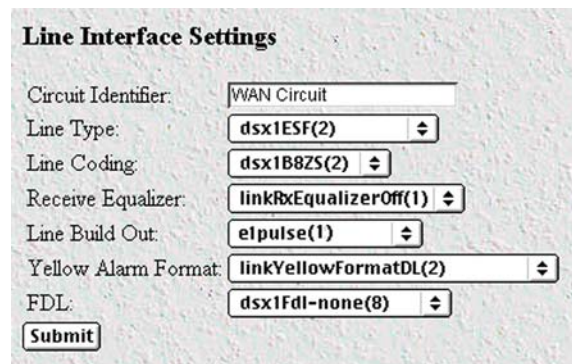

Figure 29. WAN Circuit Configuration window, Line Interface Settings section
2. Link: 1 corresponds to Line 1 on the RAS. This is the primary link for dial-in callers. Under Link 1, Click on Configuration then Modify. The Line Interface Settings section of the WAN Circuit Configuration window appears (see figure 29).
1. Click on the Line Type pop-up menu (see figure 29 on page 39) and choose from the following options:
- For an E1/PRI line your options will be either dsx1E1(4) or dsx1E1-CRC(5)
- For an E1/R2 line your options will be either dsx1E1-MF(6) or dsx1E1-CRC-MF(7)
2. Click on the Line Coding pop-up menu (see figure 29 on page 39) and choose either dsx1AMI(5) or dsxHDB3(3). Most installations will use HDB3.
3. Click on the Line Build Out pop-up menu (see figure 29 on page 39) and select e1pulse(1).
4. Click on Yellow Alarm Format pop-up menu (see figure 29 on page 39) and choose from the following options:
2. Link: 1 corresponds to Line 1 on the RAS. This is the primary link for dial-in callers. Under Link 1, Click on Configuration then Modify. The Line Interface Settings section of the WAN Circuit Configuration window appears (see figure 29 on page 39).
2. Click on the Line Coding pop-up menu (see figure 29 on page 39). The most common options are: dsx1B8ZS and dsx1AMI. For ISDN PRI service, set the line coding to dsx1B8ZS.
3. Click on the Line Build Out pop-up menu (see figure 29 on page 39) and select t1pulse0dB(1).